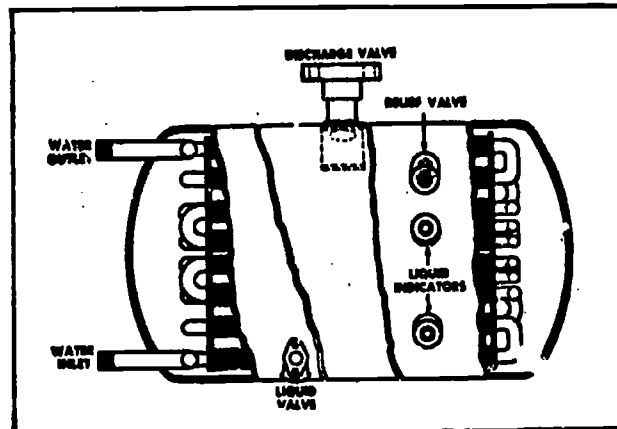

Fig 2-9. Shell and tube-type condenser (cutaway view).
- (1) Shell-and-tube type (fig 2-9). This type of condenser consists of a sealed tank or shell containing a copper coil or tubes. The hot refrigerant gas is admitted into the shell of the condenser and allowed to circulate around the tubes through which pre-cooled water is flowing. The latent heat of condensation is removed from the vapor and transferred to the circulating water. As the vapor cools and liquifies, it collects in the bottom of the shell. This type of condenser construction is advantageous as it is compact and eliminates the need for a receiver and fans. The shell-and-tube-type condensers are designed in two types. One has a water coil inside the shell while the other has a